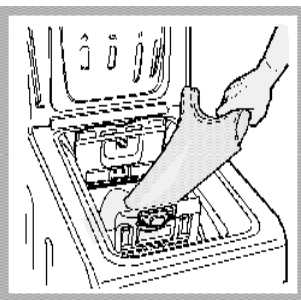

Fig. 3
- C) **Introducerea rufelor (Fig. 3)**